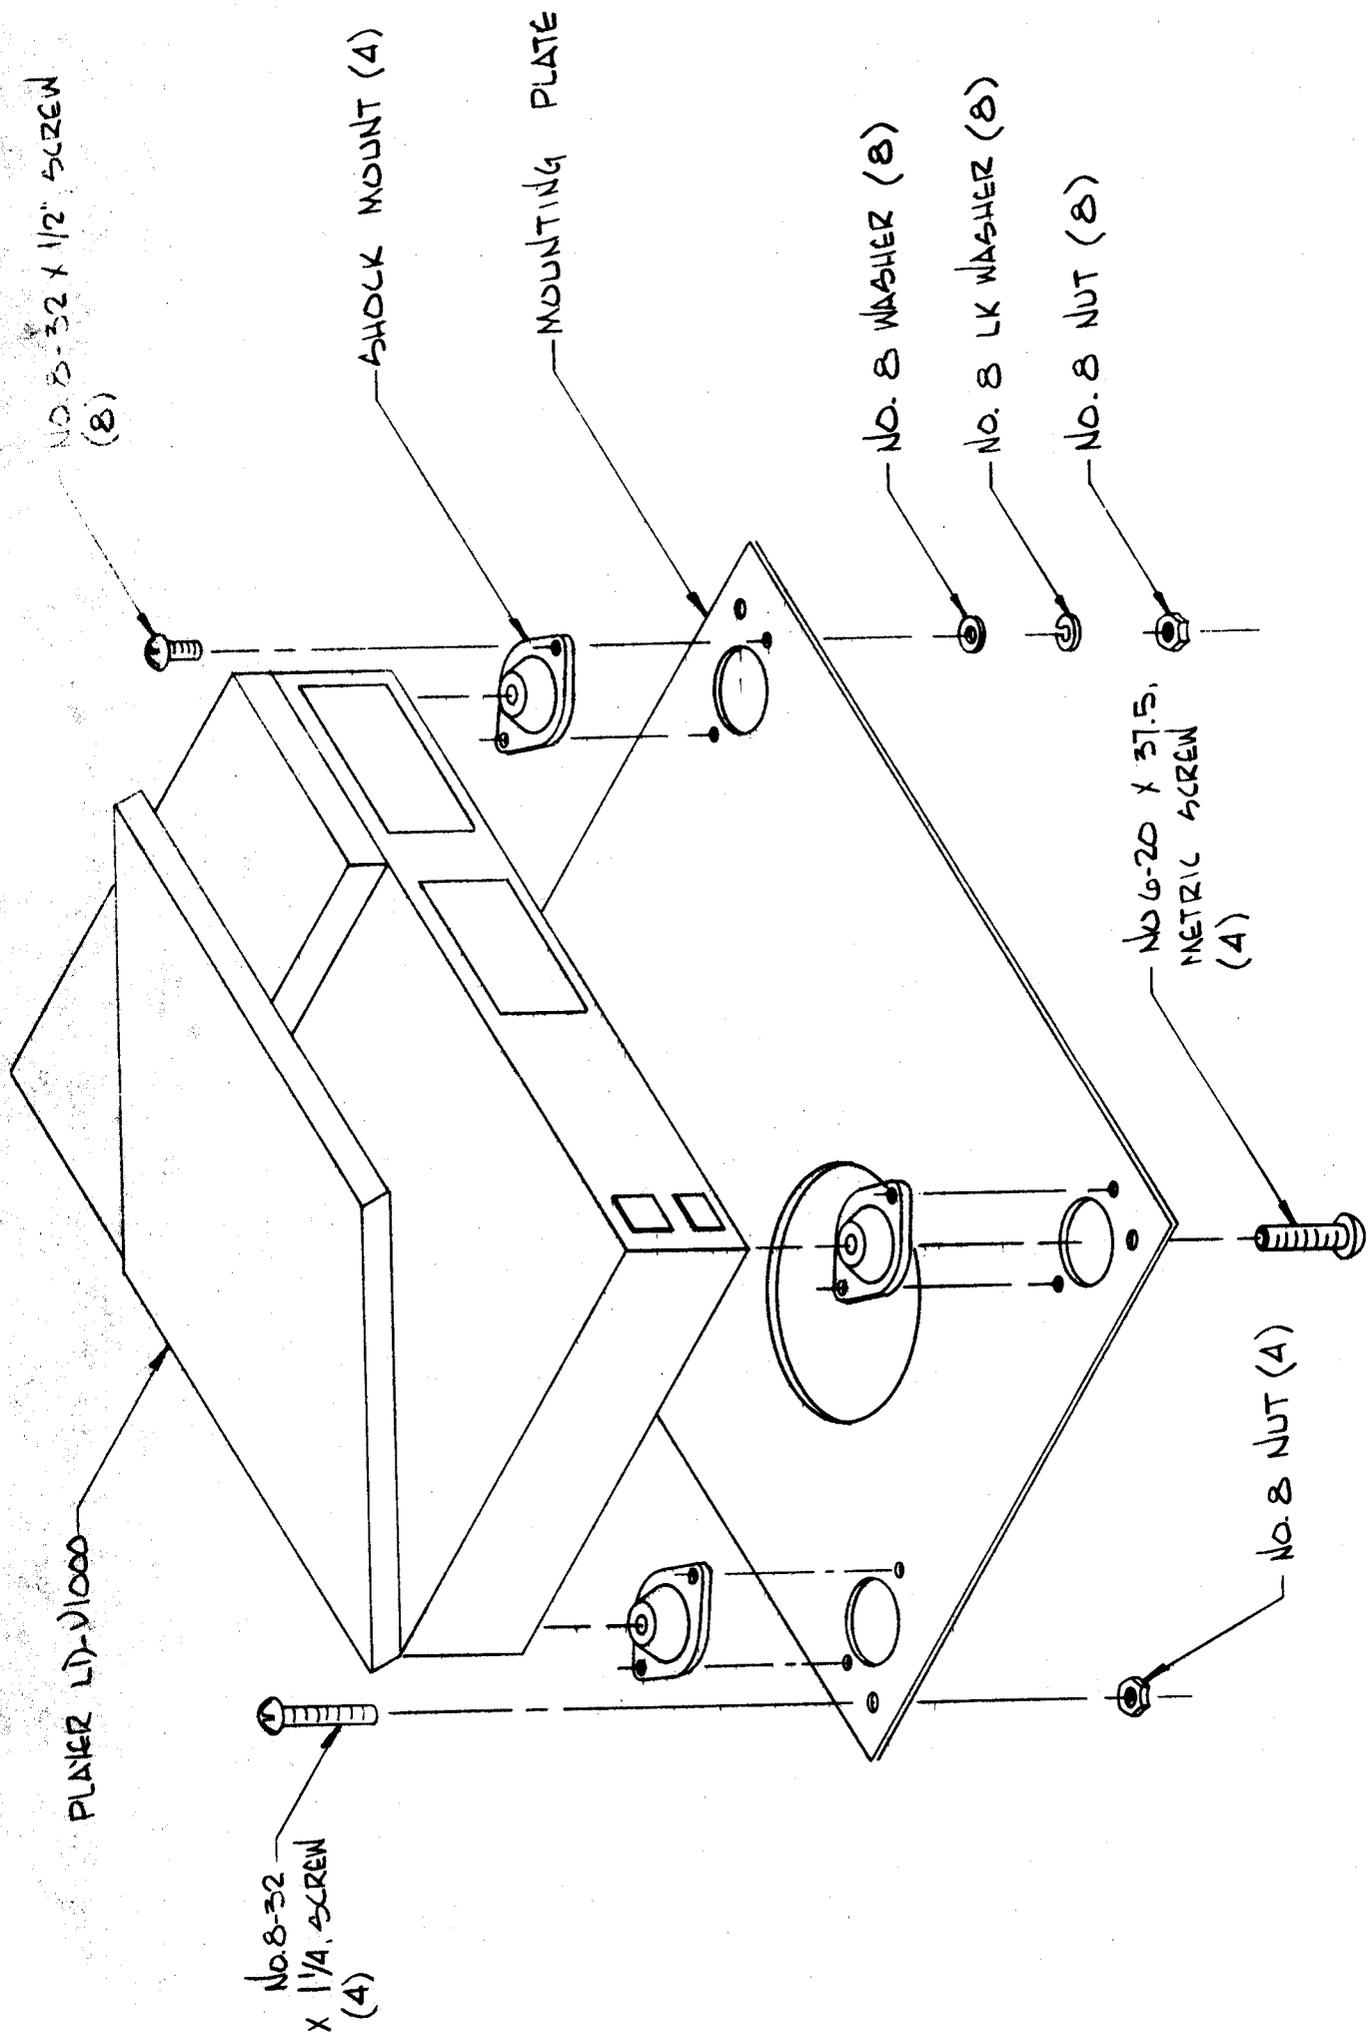

FIG. 1
- (b) Attach shock mounts to metal plate using 1/2 inch screws provided. Insert four #8 screws into mounting plate as shown in Figure 1.